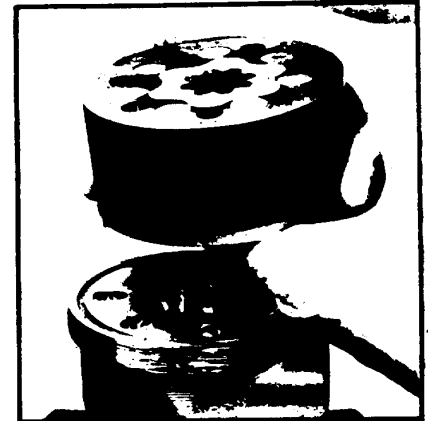

Figure 64
6. Remove drive link tool, the two bolts, then the assembled rotor set (6) and wearplate (7) as a unit from the housing and set them aside for subsequent Torqmotor™ assembly procedures. SEE FIGURE 64.